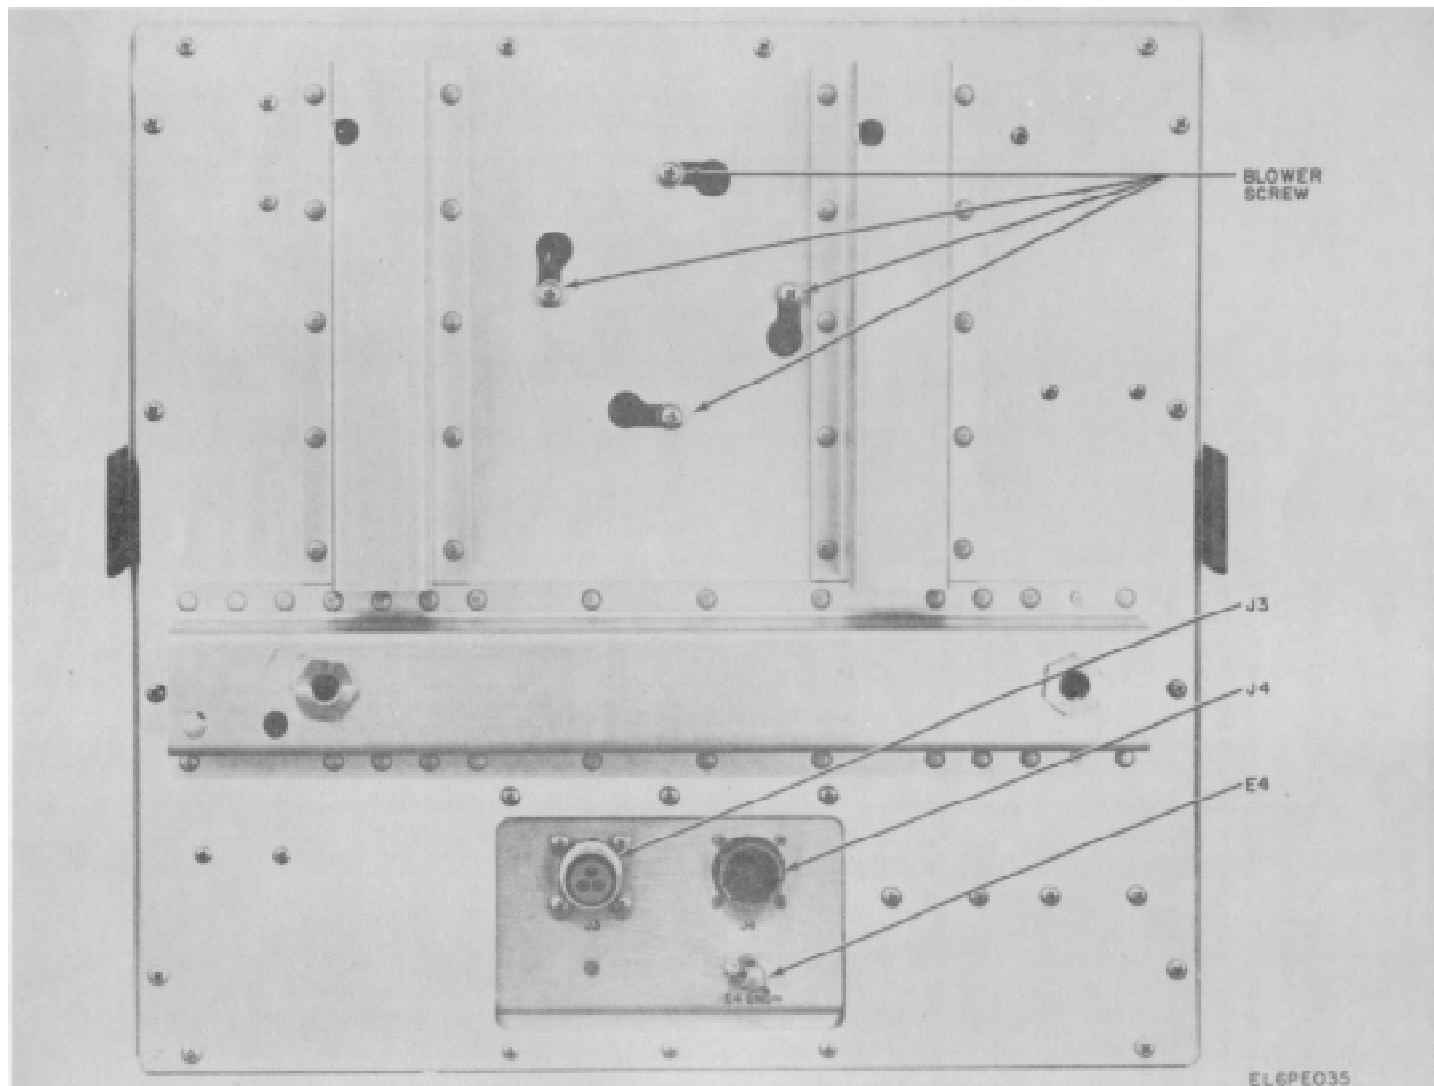

Figure 5-9. Power Amplifier, Rear Panel.
c. On the power amplifier (PA), unlock the quick disconnect clamp which secures the PA SHF OUT waveguide flange to the shelter waveguide flange and free the mated flanges.
g. On the rear of the PA, remove two cables from connectors J3 and J4 and the ground wire from terminal E4 (fig. 5-9).